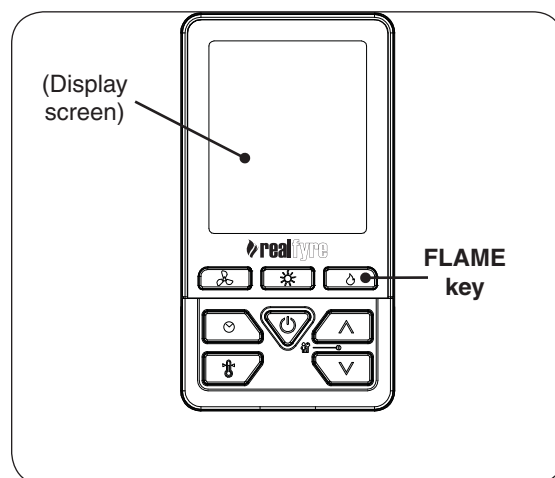
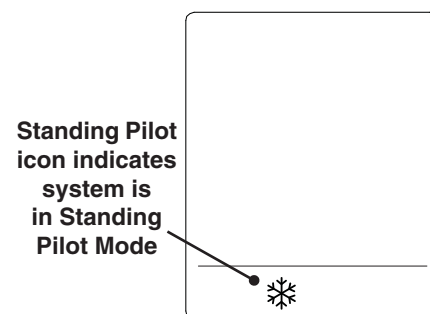

Fig. 26-3 Remote transmitter detail
Fig. 26-4 Standing Pilot Mode detail
2. Locate the remote transmitter and press the UP or DOWN key to wake up the remote. Then press (and hold) the **FLAME** key for 6 seconds. The Standing Pilot icon will display once activated (bottom of screen). See Fig. 26-3 and Fig. 26-4. The system will beep and the pilot ignition sequence will begin.